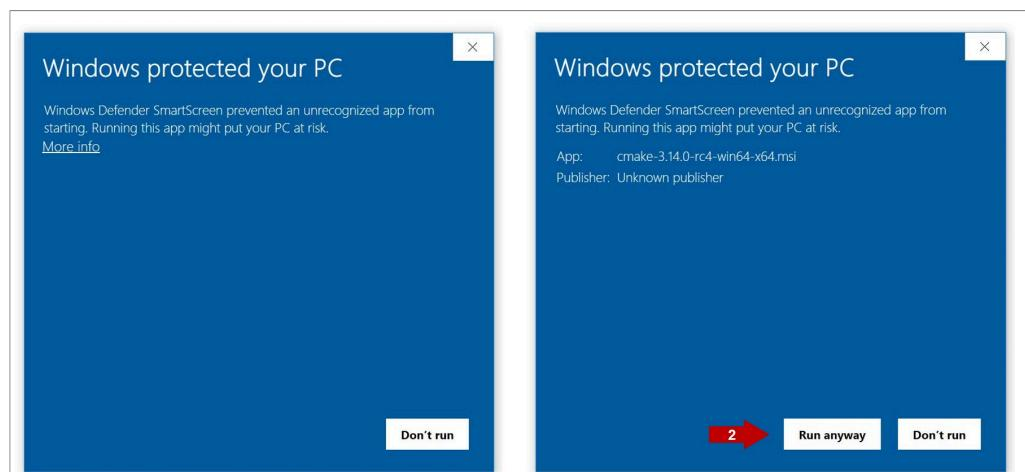

Figure 67. Run the CMake installer (II)
4. If this is your case: Click (1) on **More info** and then (2) click on **Run anyway** as shown in Figure 67: